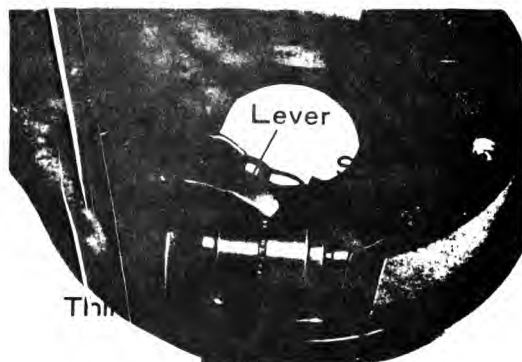

Fig. 5-17 Installing spring
- (i) Assemble the cable lever spring as shown in Fig. 5-17. In this case, assemble the spring and lever and move the lever to the cable side to facilitate assembly. Insure that the cable and cable guide fitting and the spring and shoe fitting is correct, and apply grease between the cable and cable guide fitting.